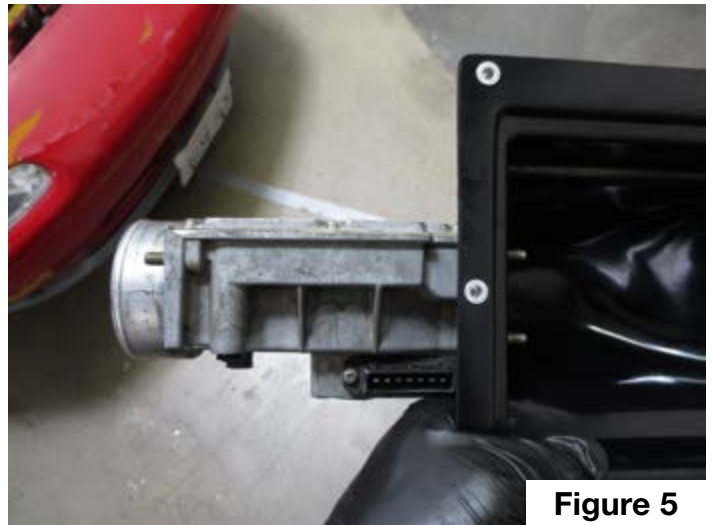

Figure 5
- 14) Locate the new Jackson Racing air box included in the kit. If the top and bottom of the air box came assembled, disassemble them. Install the air flow meter and gasket into the bottom section of the air box. The air flow meter will be installed sideways with the grid side towards the rear of the air box. Install the air flow meter with the included four nylon locking nuts. See Figure 5